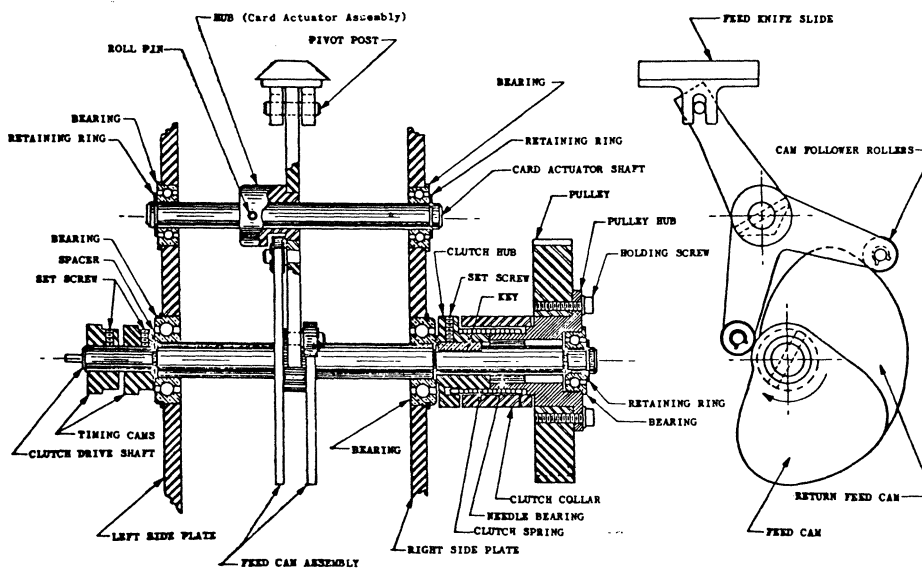

Figure 4-22. Clutch Assembly
5. CLUTCH ASSEMBLY (figure 4-22)